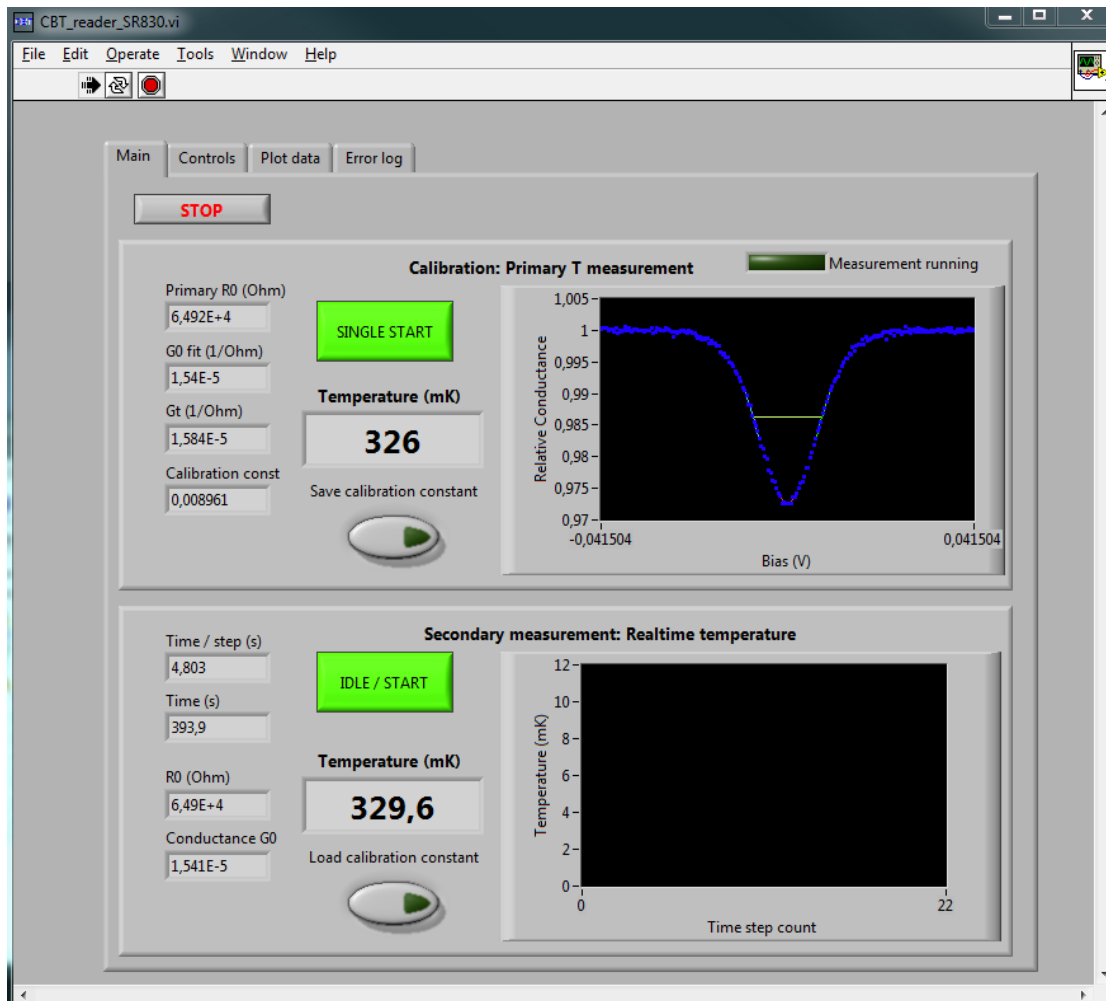
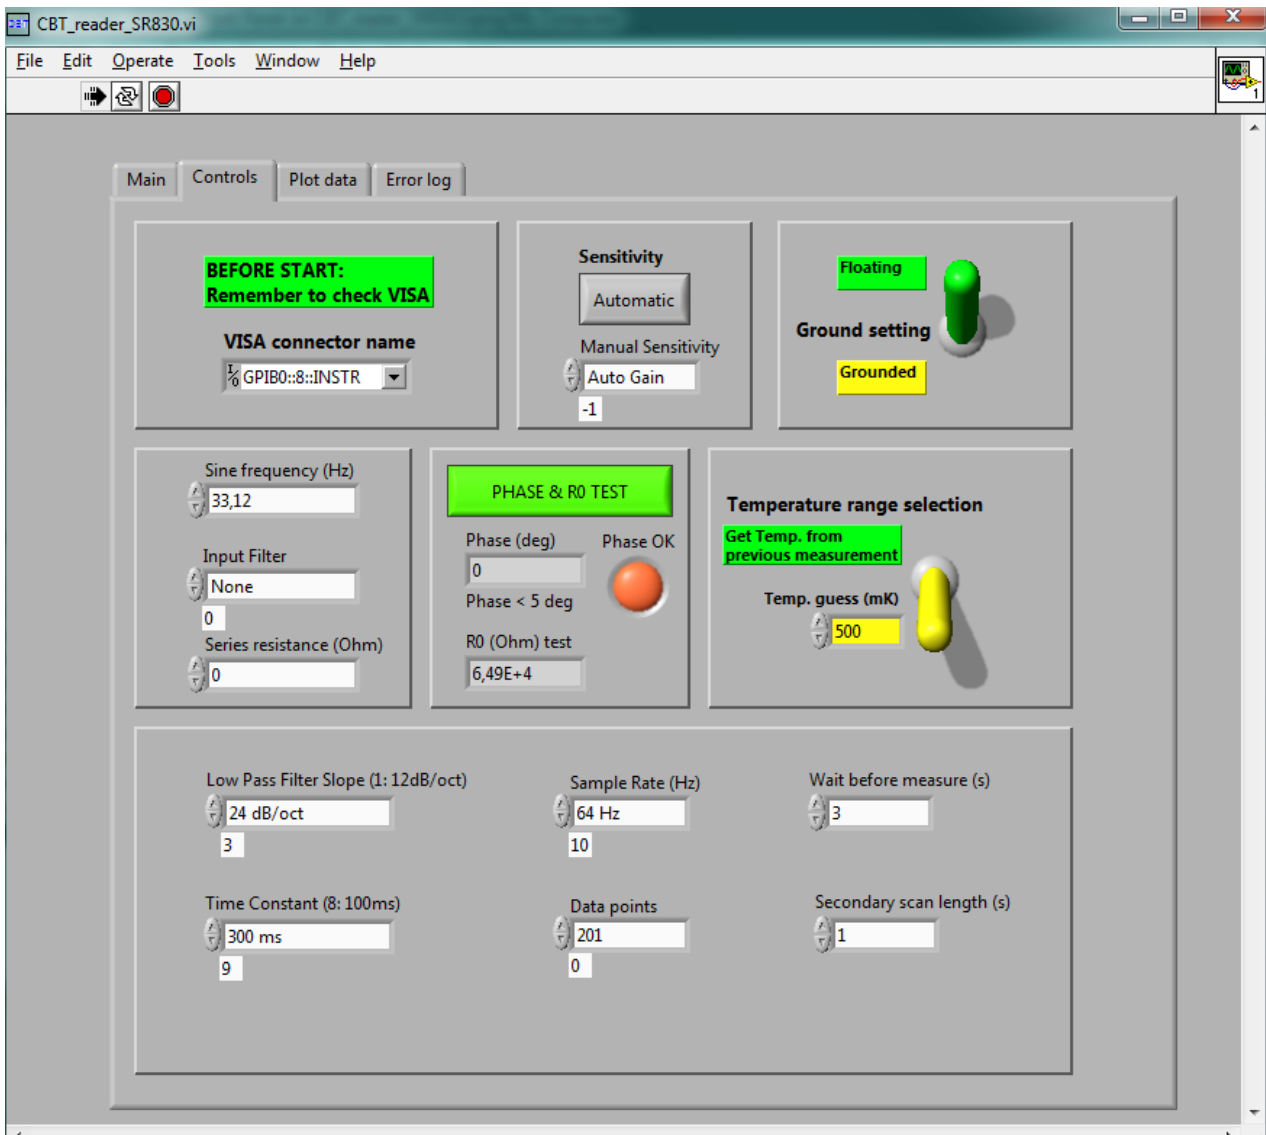
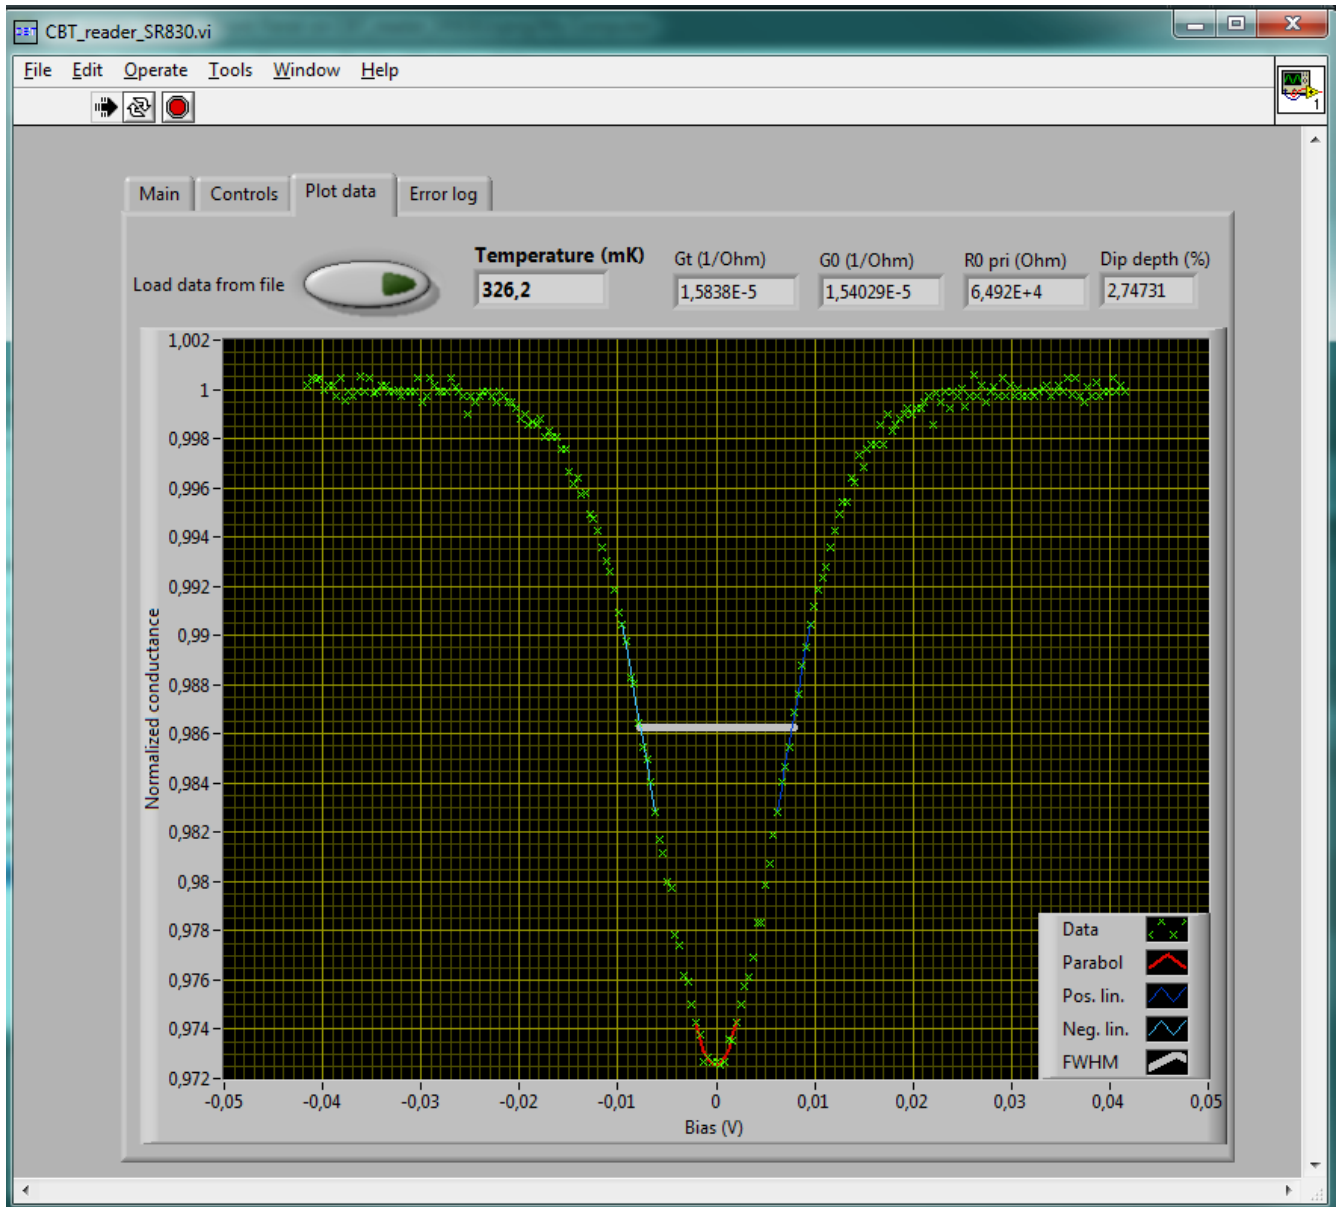

Figure 4: CBT Reader Main panel.
Figure 5: CBT Reader Controls panel.
Figure 6: CBT Reader conductance curve plotting panel.
Operation: (See Figure 4 for the Main panel of the software and Figure 5 for Controls panel)
temperature in mK units (yellow box **Temp. guess (mK)**). When range is successfully selected, the conductance curve shape is similar to that in Figure 4 or Figure 6. Please check that relative conductance saturates into value 1 at the beginning and at the end of the curve. If the bias voltage range is too narrow (temperature guess is too low or the temperature has increased significantly after last primary measurement) the curve shape is more like parabola. If the temperature range is too large, a lot of measurement points are saturated into relative conductance of 1 and curve lacks measurement points in the conductance dip. Both cases may cause temperature overestimation. At temperature exceeding 2K, bias sweep range of the lock-in amplifier is at maximum and temperature may be slightly overestimated. Once manual “temperature guess” is used, it is recommended to use automatic temperature range selection afterwards to get accurate temperature value by switching “Get Temp. from previous measurement”.
- The CBT Reader **Main panel** also displays (see Figure 4.)
- The conductance data can be plotted in **Plot data** panel. Conductance data file is named automatically by DATE_TIME_conductancetrace.txt and it contains three columns: bias voltage (V), conductance (1/Ohm) and resistance (Ohm).
- In normal operation **Temperature range selection** is automatic and the toggle switch should point at “Get Temp. from previous measurement”. However, in case of first measurement, user must guess the temperature range by toggling the switch to lower position and entering the approximate temperature in mK units (**yellow** box **Temp. guess (mK)**). When range is successfully selected, the conductance curve shape is similar to that in Figure 4 or Figure 6. Please check that relative conductance saturates into value 1 at the beginning and at the end of the curve. If the bias voltage range is too narrow (temperature guess is too low or the temperature has increased significantly after last primary measurement) the curve shape is more like parabola. If the temperature range is too large, a lot of measurement points are saturated into relative conductance of 1 and curve lacks measurement points in the conductance dip. Both cases may cause temperature overestimation. At temperature exceeding 2K, bias sweep range of the lock-in amplifier is at maximum and temperature may be slightly overestimated. Once manual “temperature guess” is used, it is recommended to use automatic temperature range selection afterwards to get accurate temperature value by switching “Get Temp. from previous measurement”.
This panel can be used to plot conductance curves (primary measurement data files) in a bigger graph. One can monitor more clearly if the data looks noisy or there has been some problems during the measurement. When the setup and the connections are optimal plot should be similar as in Figure 6. Be sure that you have no primary measurement or secondary measurement running at the same time when you want to plot data.